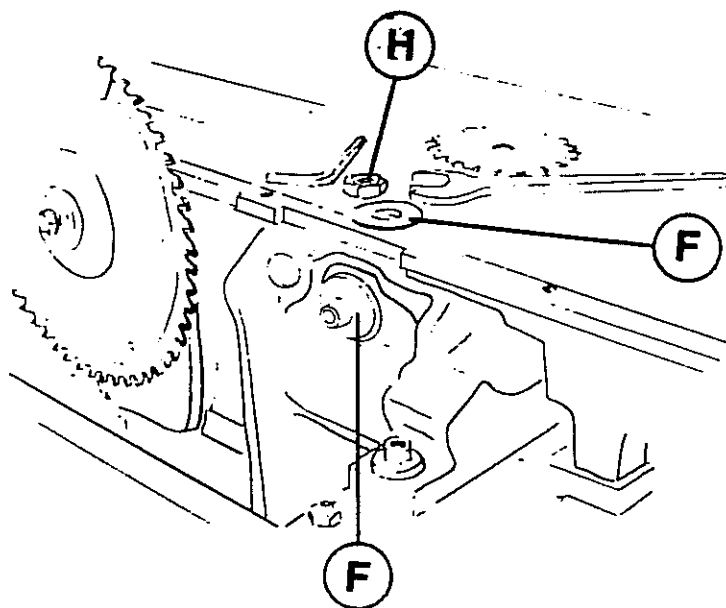

Fig.19
Remove nut (H fig.19) and one flange (F), check that both flanges (F) and scorer blade are clean.